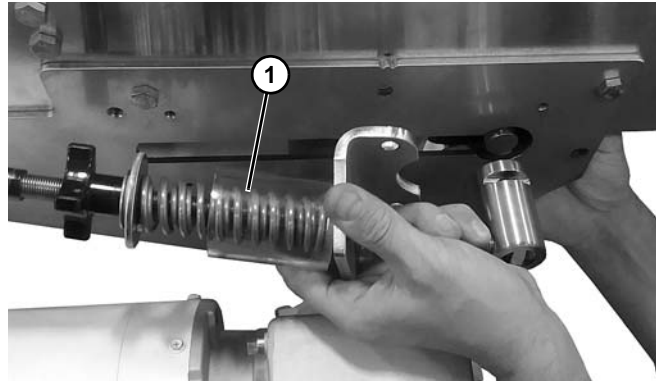

Figure 58
14. Remove tension assembly (Figure 58, item 1) on both sides of the center drive.